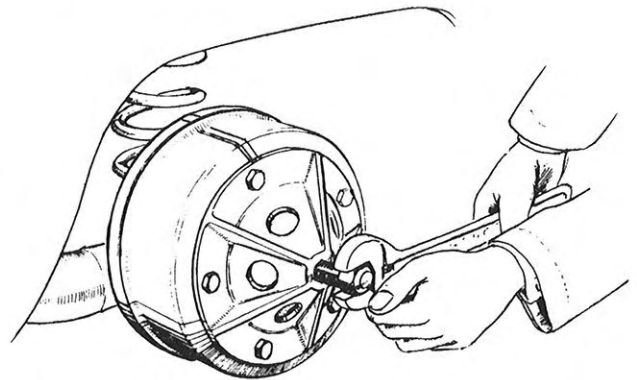

Fig. 13. Wheel puller, Saab tool 92-3
3. Remove brake drum using puller Saab 92-3, see Fig. 13. Release handbrake and check that the brake shoes do not drag before the drum is pulled off.